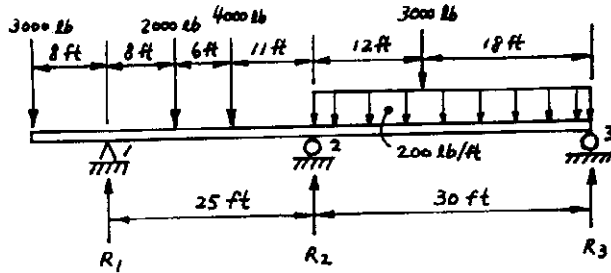

Fig. 3.
3. For the continuous beam shown in Fig. 3, calculate the moments at the supports. Neglect the weight of the beam. (25%)